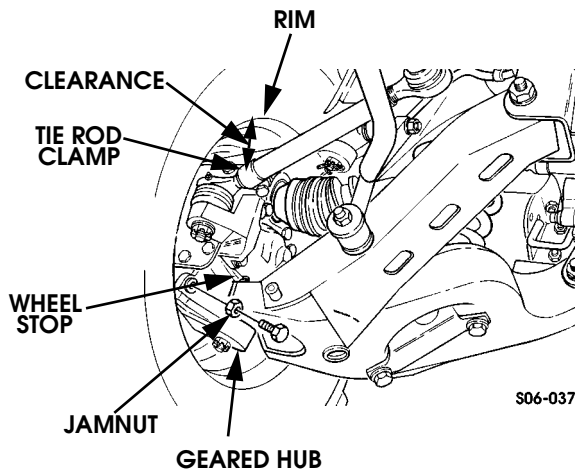

Figure 8-22: Steering Stop Adjustment
1. Loosen jamnut and remove bolt and jamnut from geared hub (Figure 8-22).
1. Apply thread-locking compound to bolt (Figure 8-22).
10. Unscrew bolt until head makes contact with wheel stop on lower control arm (Figure 8-22).